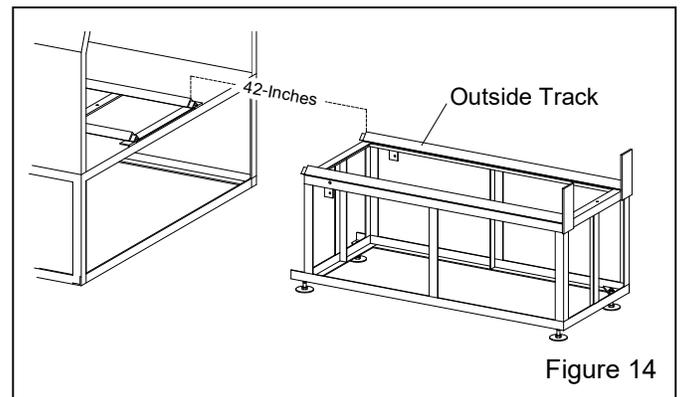

Figure 14
3.5.3 Position outside track – Figure 14